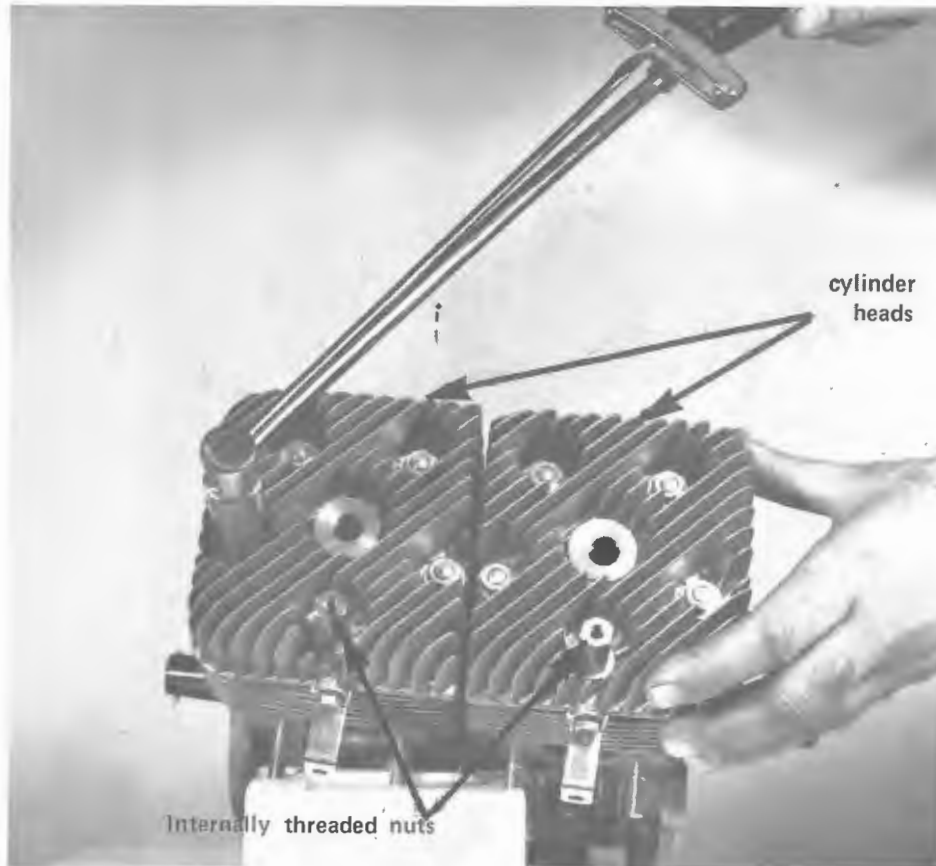

Fig. 5-6 Installing Cylinder Heads
5.2.4 Cylinder Heads (See Figure 5-6)